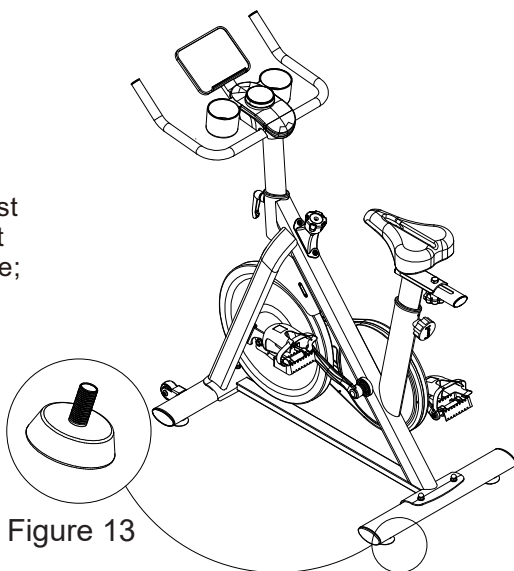

Figure 13
13. Once assembly is complete, adjust the levelling feet manually by slight rotation if the equipment is unstable; refer to Figure 13.